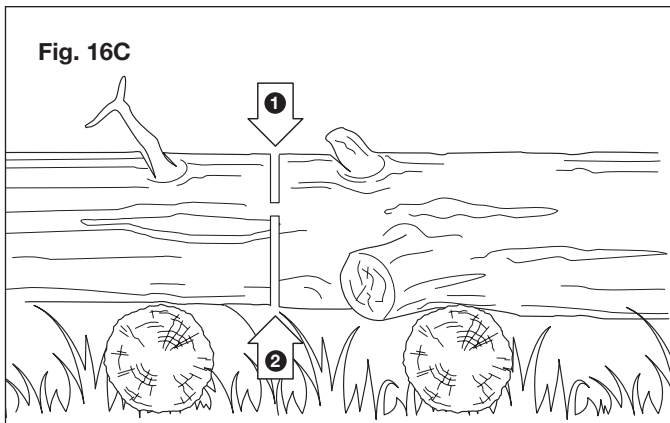

Fig. 16C
- When the log is supported on both ends (Fig. 16C), cut 1/3 the diameter from the top (overbuck). Then make the finishing cut by underbucking the lower 2/3 to meet the first cut.